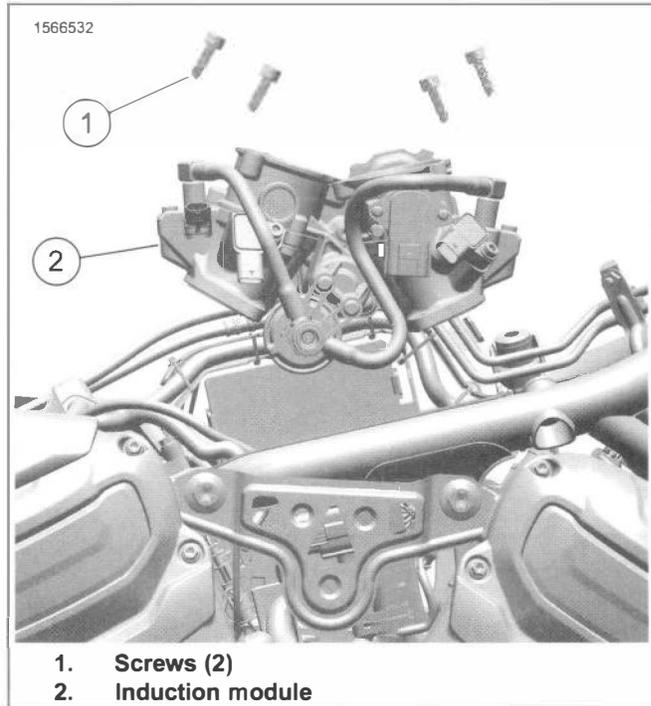

Figure 6-31. Induction Module
2. See Figure 6-31. Remove induction module.
- a. Remove screws (1).
- b. Remove induction module (2).
1. See Figure 6-31. Install induction module.
- a. Install induction module (2).
- b. Install screws (1). Tighten.